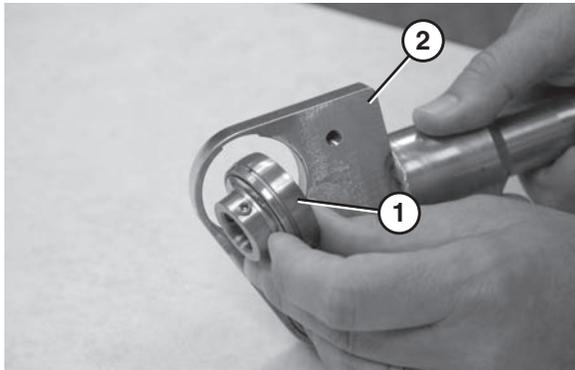

Figure 99
2. Remove the bearing (**Figure 99, item 1**) from the nose bar shaft assembly (**Figure 99, item 2**).